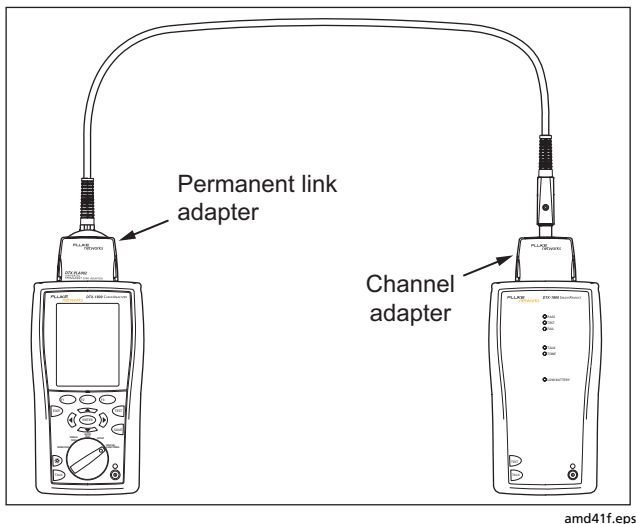

Figure 3-1. Twisted Pair Reference Connections
- 1 Attach permanent link and channel adapters and make the connections shown in Figure 3-1.